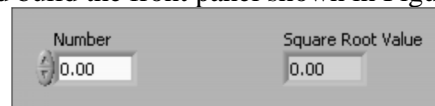

Figure 1
1. Open a blank VI and build the front panel shown in Figure 1.